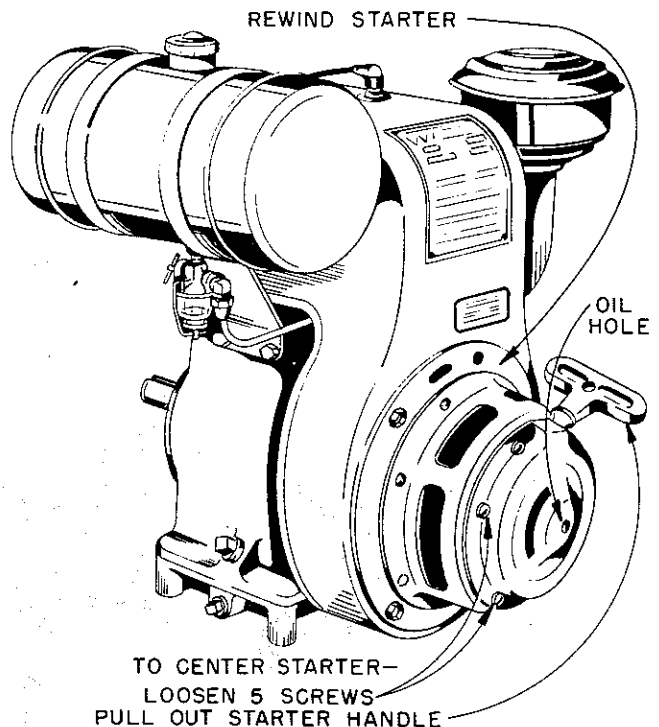

FIG. 1
4. After you have the starter mounted, loosen, but do not remove the 5 screws (see Fig. 1) that fasten the sheave housing to the starter housing. This will allow about 1/8" radial movement of the sheave housing. With the 5 screws loosened, pull the starter handle out, then tighten the 5 screws while you have the starter engaged.